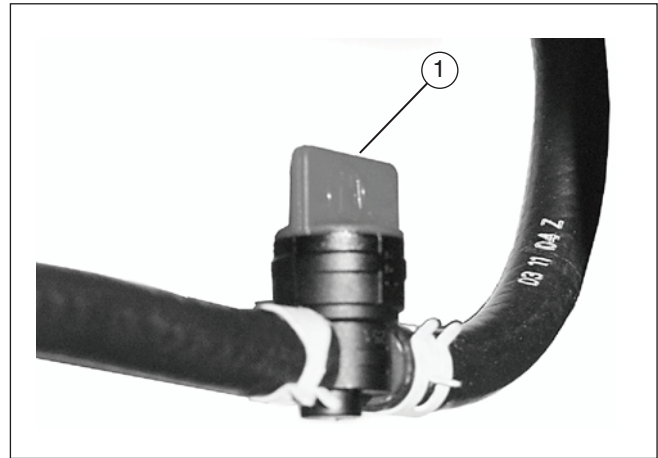

Figure 14
5. Move the throttle control (7) to the SLOW position.
6. To stop the engine, turn the ignition key (3) to the OFF position. Remove the key.
7. Some models have a fuel shut-off valve (1) located under the fuel tank (see **Figure 14**). If equipped, close the fuel shut-off valve.
2. Some models have a fuel shut-off valve (1) located under the fuel tank (see Figure 14). If equipped, turn the fuel shut-off valve 1/4 turn to the OPEN position.